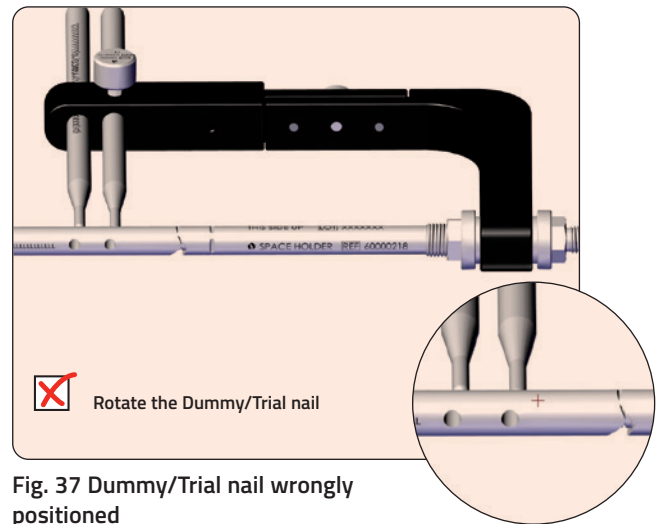

Fig. 37 Dummy/Trial nail wrongly positioned
3. The dummy/trial nail is wrongly placed. (Fig. 37)